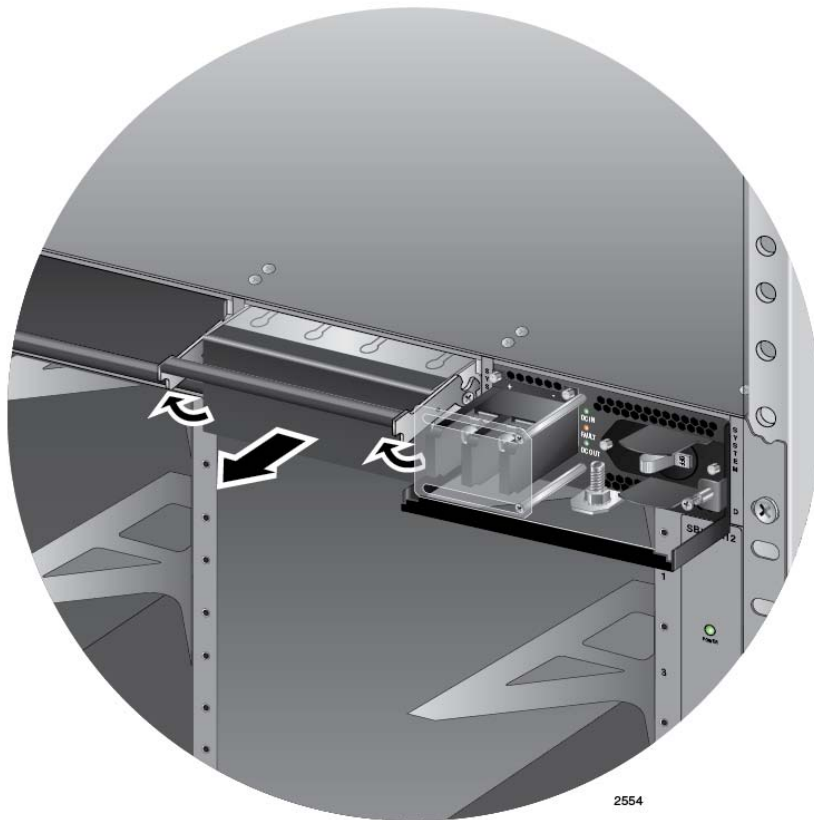

Figure 58. Removing the Blank Slot Cover from Power Supply Slot C
2. If the chassis already has a power supply in slot D, remove the blank power supply panel from slot C by lifting the blank panel handle and sliding it out of the slot, as shown in Figure 58 on page 120.